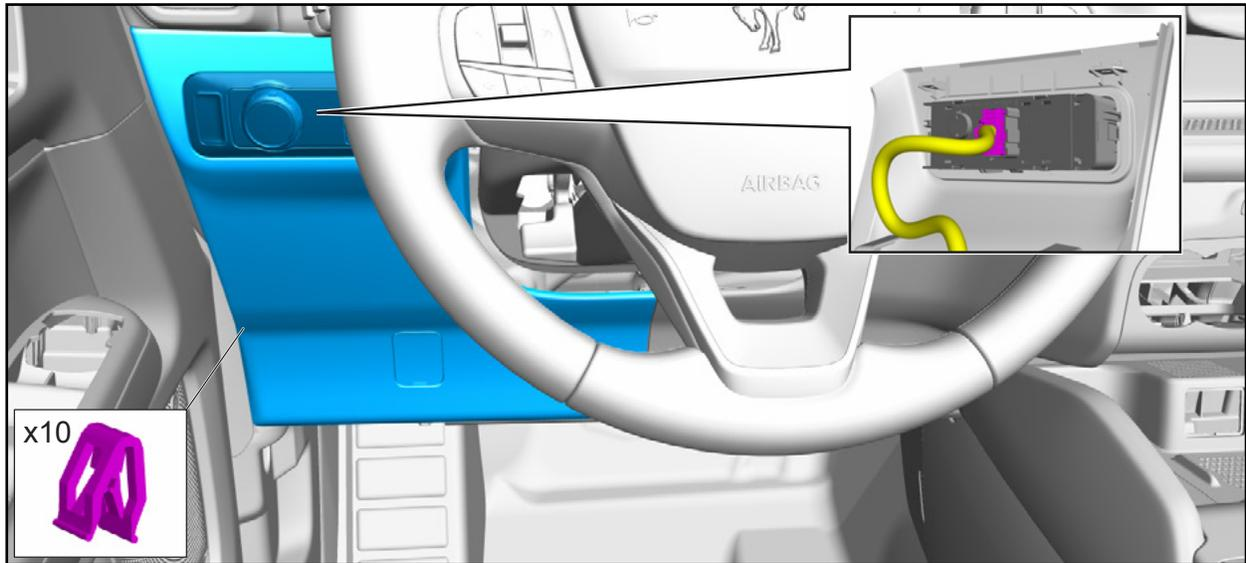

FIGURE 38
38. Detach the clips and Remove the LH side of the steering column cover. See Figure 38.